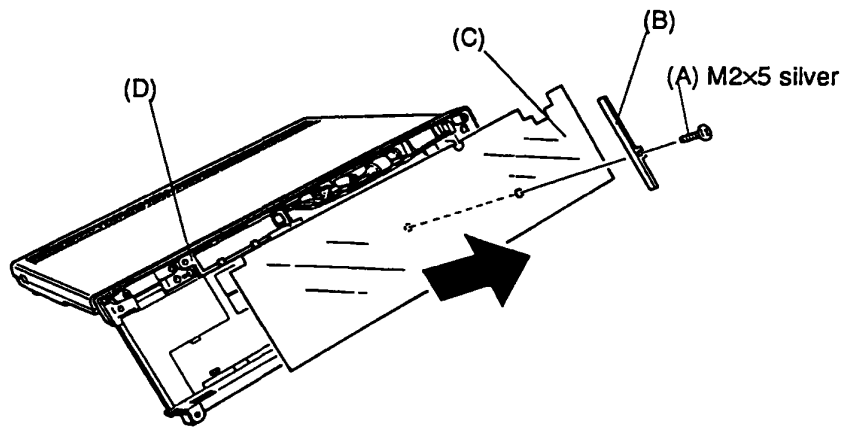

Figure 4-14 Removing the support bridge and plastic cover
3. Remove the single (M2x5 silver) screw (A) securing the support bridge (B) to the top cover.
4. Carefully peel the plastic cover (C) back just enough to expose the LED holder (D). Separate each flexible cable from the plastic cover (Figure 4-14).
6. Reposition the plastic cover over the cables on the top cover and secure the support bridge with the single (M2x5 silver) screw (Figure 4-14).